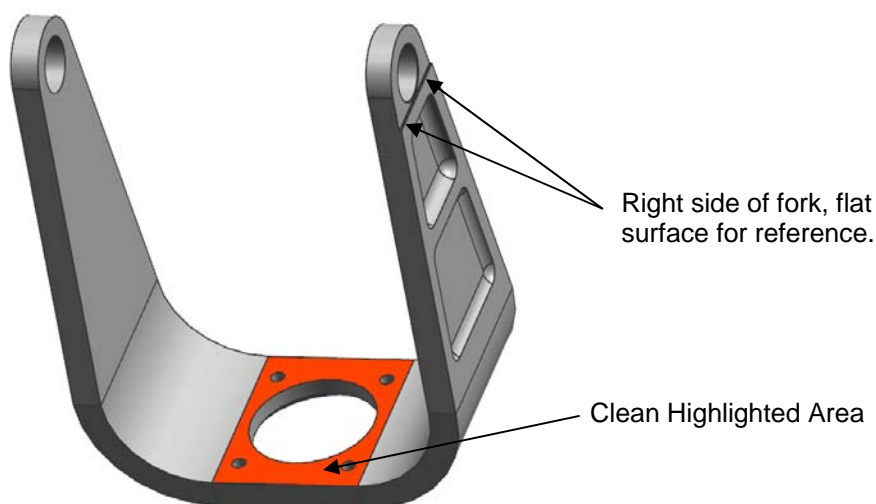

Figure 6-1: Fork Surface Cleaning
2. Clean the center portion of the bottom inside surface of the fork with acetone. Refer to **Figure 6-1**.
3. Note the correct alignment of the fork with regard to the nose gear trunnion. On the right side of the fork, there is a small flat spot where the detent on the axle will rest. Refer to **Figure 6-1**.